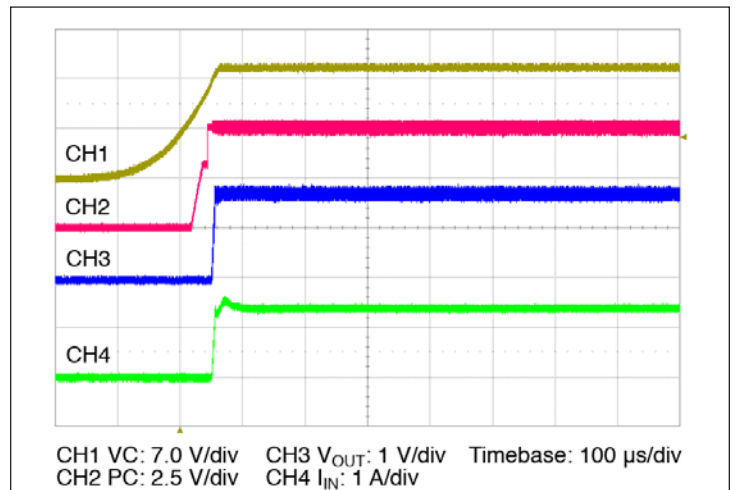

Figure 14 — Start up from application of VC; V_{IN} pre-applied $C_{OUT} = 0 \mu F$
- **Stand Alone Operation (VC applied after V_{IN}):** In this case the module output will begin to rise upon the application of the VC voltage (See Figure 14). The Adaptive Soft Start circuit (See Section 10) may vary the output rate of rise in order to limit the inrush current to its maximum level. When starting into high capacitance, or a short, the output current will be limited for a maximum of 900 µsec. After this period, the adaptive soft start circuit will time out and the module may shut down. No restart will be attempted until VC is re-applied, or PC is toggled. The maximum output capacitance is limited to 1500 µF in this mode of operation to ensure a successful start.